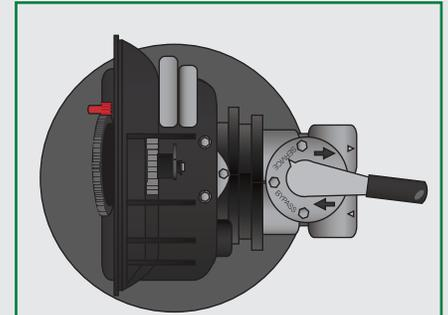

Figure 8 - System in SERVICE position.
**8.** After the **Manual Rinse Cycle** has been completed, rotate the valve control lever to the **SERVICE** position. Make sure the control lever is in the full **SERVICE** position. [See Figure 8]